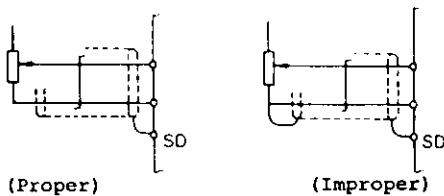

Fig. 4-13 Connection I of shield sheath
① Connect the outer sheath of the shield cable to the terminal SD of the servo amplifier connector, and be sure to open the other end. Refer to Fig. 4-13 and 4-14.